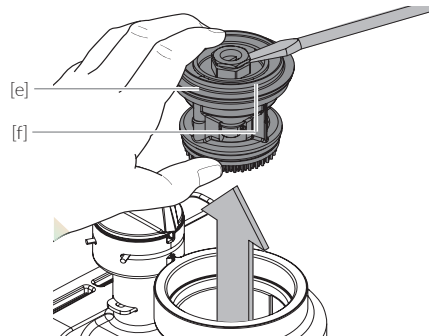

Fig. 8.14
- / Fig. 8.14: Remove cartridge [e] with the slide ring [f]